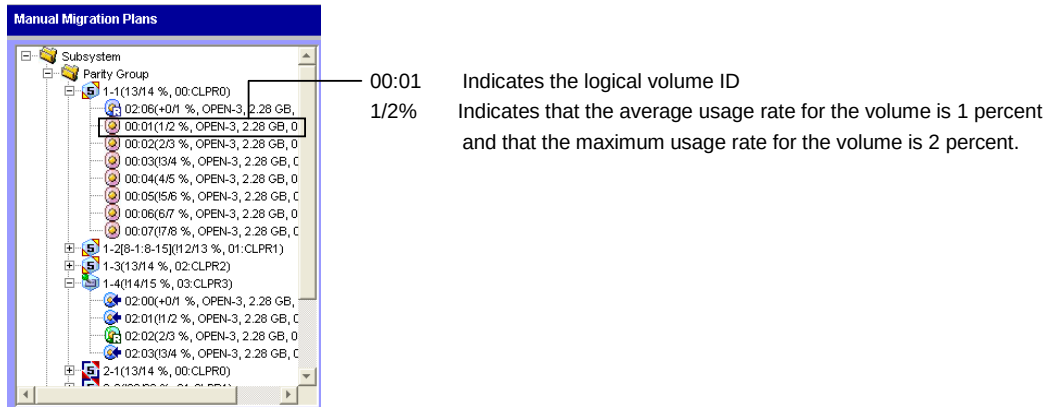

Figure 3.2 Usage Rate for Logical Volume
1. Check usage rates for logical volumes as shown in Figure 3.2.